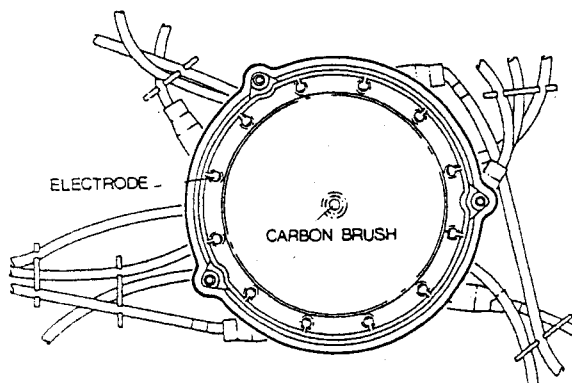

Fig. 52 Checking the distributor cover and H.T. cables
**TEST 10. Distributor Cover and H.T. Cables (Fig. 52)**